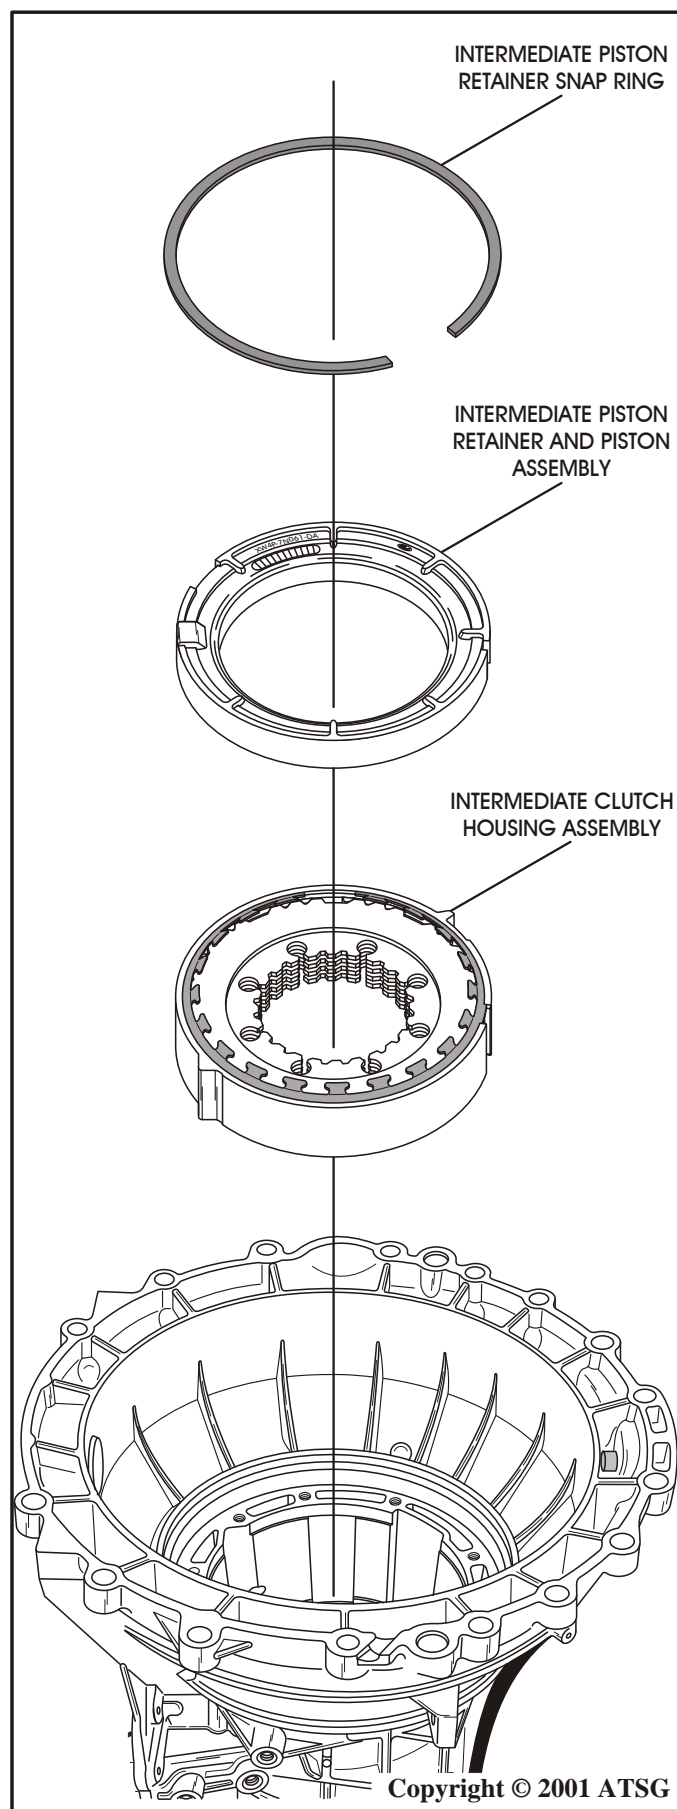

Figure 148
19. Install the pre-assembled intermediate clutch housing assembly into the transmission case, as shown in Figure 148, and ensure it is fully seated.
20. Install the pre-assembled intermediate piston retainer assembly into the transmission case, as shown in Figure 148.
22. Compress the bellville return spring and install retaining snap ring for the intermediate clutch piston retainer (See Figure 148).